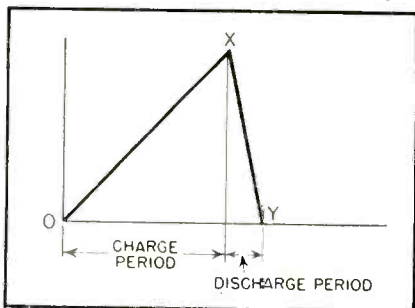

Fig. 1-14: Complete saw-tooth wave.
2. In this condition the tube is non-conductive and C₂ charges up slowly being fed through R₂ by the B+ supply. This charging process corresponds to the line O-X in the sawtooth output waveform shown in Fig. 1-14.
3. At the end of the discharge period of C₁R₁ (which controls the free-running frequency of the oscillator) the grid is no longer negative so that the tube conducts and C₂ is discharged through the tube. This corresponds to line X-Y in Fig. 1-14.
5. The complete sawtooth wave consists of a charge period O-X and discharge period X-Y shown in Fig. 1-14.